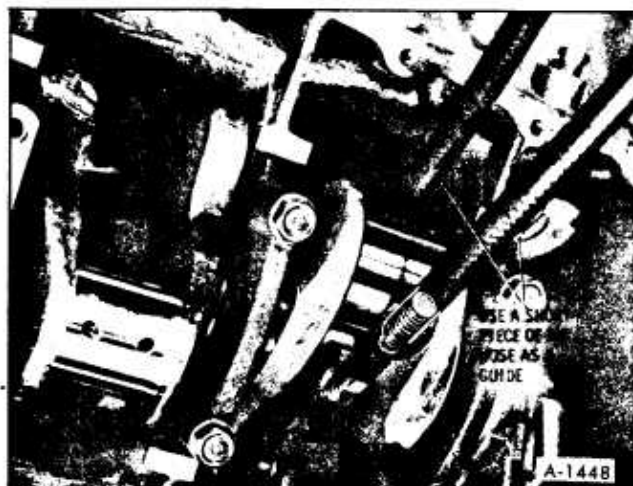

Figure 36—Connecting Rod Bolt Guide
4. Install guide hose over threads of rod bolts. This is to prevent damage to bearing journal and rod bolt threads. See Figure 36.
1. Install connecting rod bolt guide hose over rod bolt threads. (See figure 36).